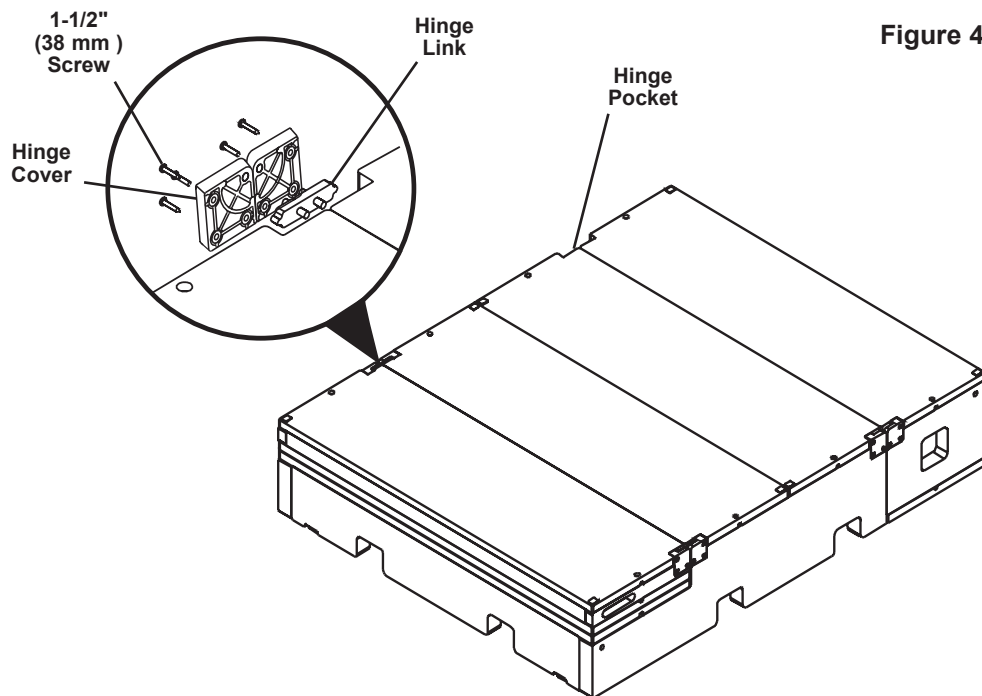

Figure 4
1. Orient the base and steps as shown in **Figure 4**.